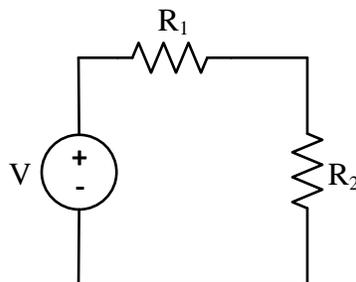

Figure 5. Voltage Divider with Two Series Resistors.
Task A8: Using a breadboard, assemble the network shown in Figure 5. Using the DMM as a voltmeter, adjust the supply voltage, V , from the DC power supply, to obtain ten volts. For R_1 use the resistor from step 7 which has the smallest measured value. For R_2 use the resistor from step 7 which has the largest measured value. Measure and record the voltages across each of the resistors. Be sure to record the polarities of each of the voltages.
9. If both resistors were exactly the nominal value, calculate what the voltage would be across each of the resistors in the circuit in Figure 5.